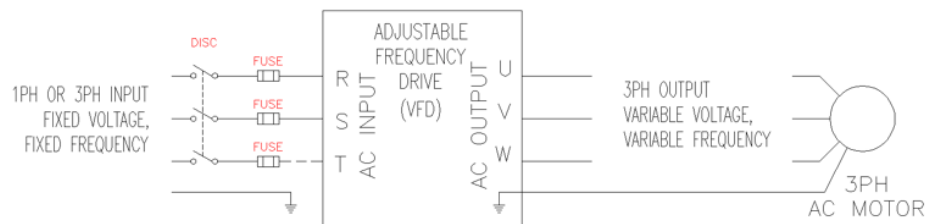

Fig. 3 - VFD Input/Output Connections
**!** Regardless of whether the input voltage is 1 $\phi$  or 3 $\phi$ , the power to the fan motor will always be 3 $\phi$ . See figure 3 on the right.